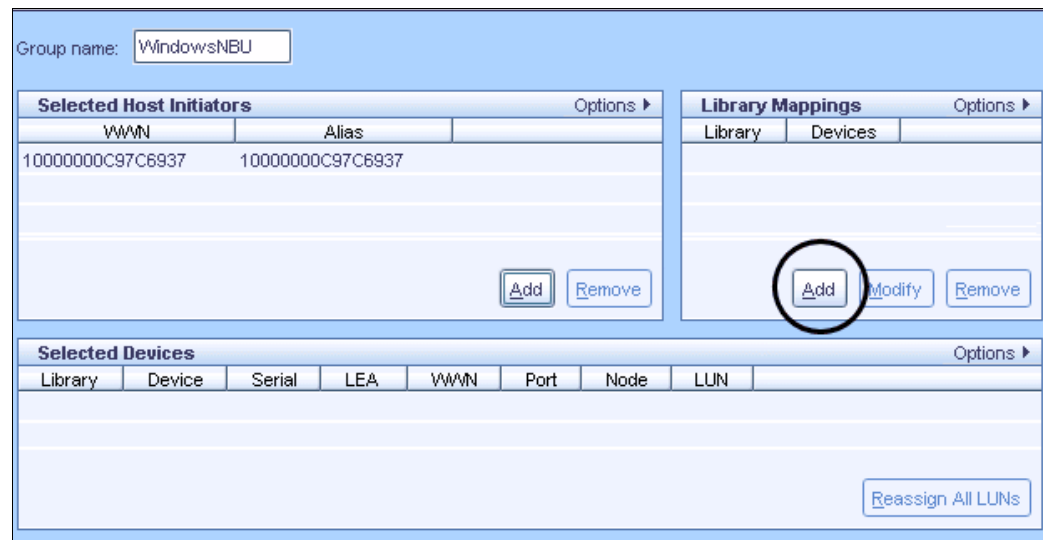

Figure 6-15 LUN Masking window
9. After adding the Host Initiators, go to the Library Mappings pane and click **Add** (as shown in Figure 6-15) to select the tape library devices you want to be visible to the host initiators in the group.